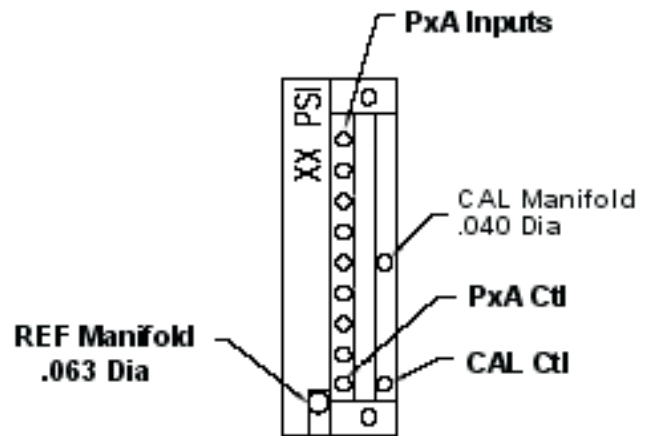
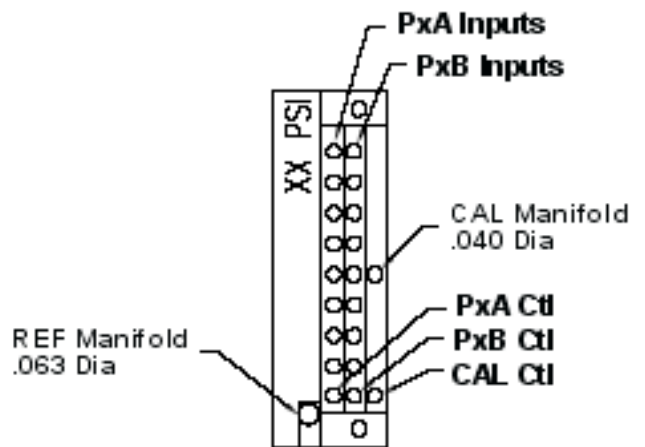

FIGURE 3.3 - ZOC33/64Px PNEUMATIC INPUTS
FIGURE 3.4 - ZOC33/64PxX2 PNEUMATIC INPUTS
Control pressure inputs consist of: PxA CTL and CAL CTL. The duplex module has a third control pressure input, PxB CTL. These inputs are used to switch the valve logic to each of the four (4) states: Operate, Calibrate, Purge, and Isolate. The control pressures must be 65 psi. Figure 3.3 shows the 64Px valve logic. Figure 3.4 shows the 64PxX2 Valve Logic.